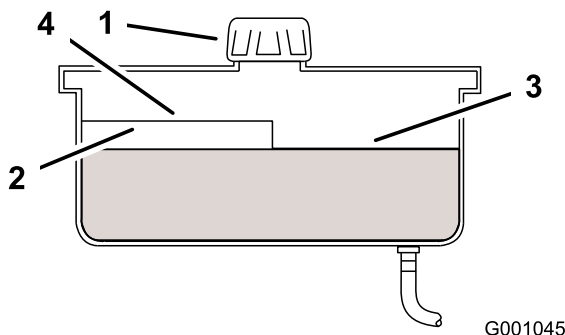

Figure 62
2. Clean the area around filler neck of hydraulic tank (Figure 62).
3. Remove the cap from the filler neck. Look inside to check if there is fluid in the reservoir (Figure 62).
Note: The fluid level should be to the top of the hot level of the baffle, when the fluid is hot (Figure 62).